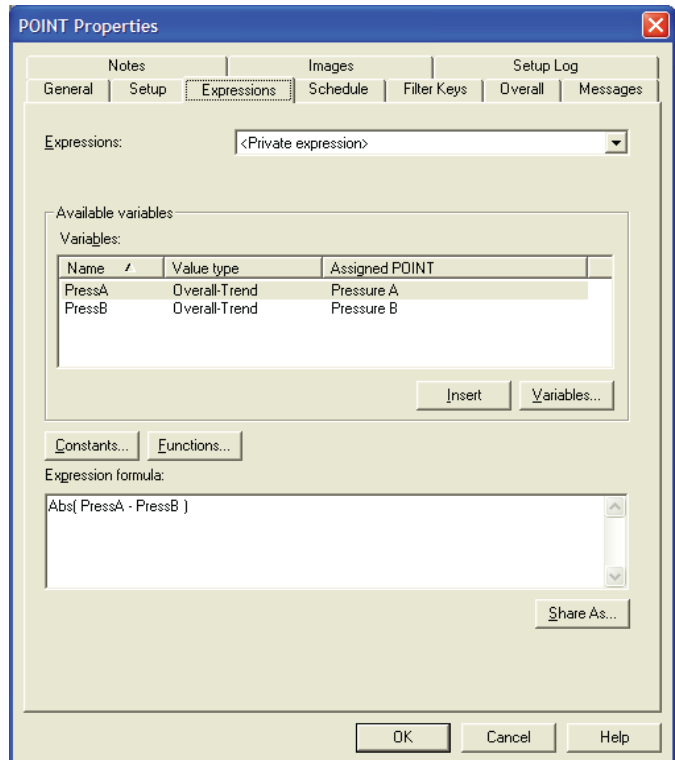

Figure 7. The Expression with Abs() function applied.
- 11 Select the Expression tab and edit the expression. The Abs() function can be inserted by clicking the Functions ... button, selecting the Abs function, and then OK button. Modify it per **Figure 7**.